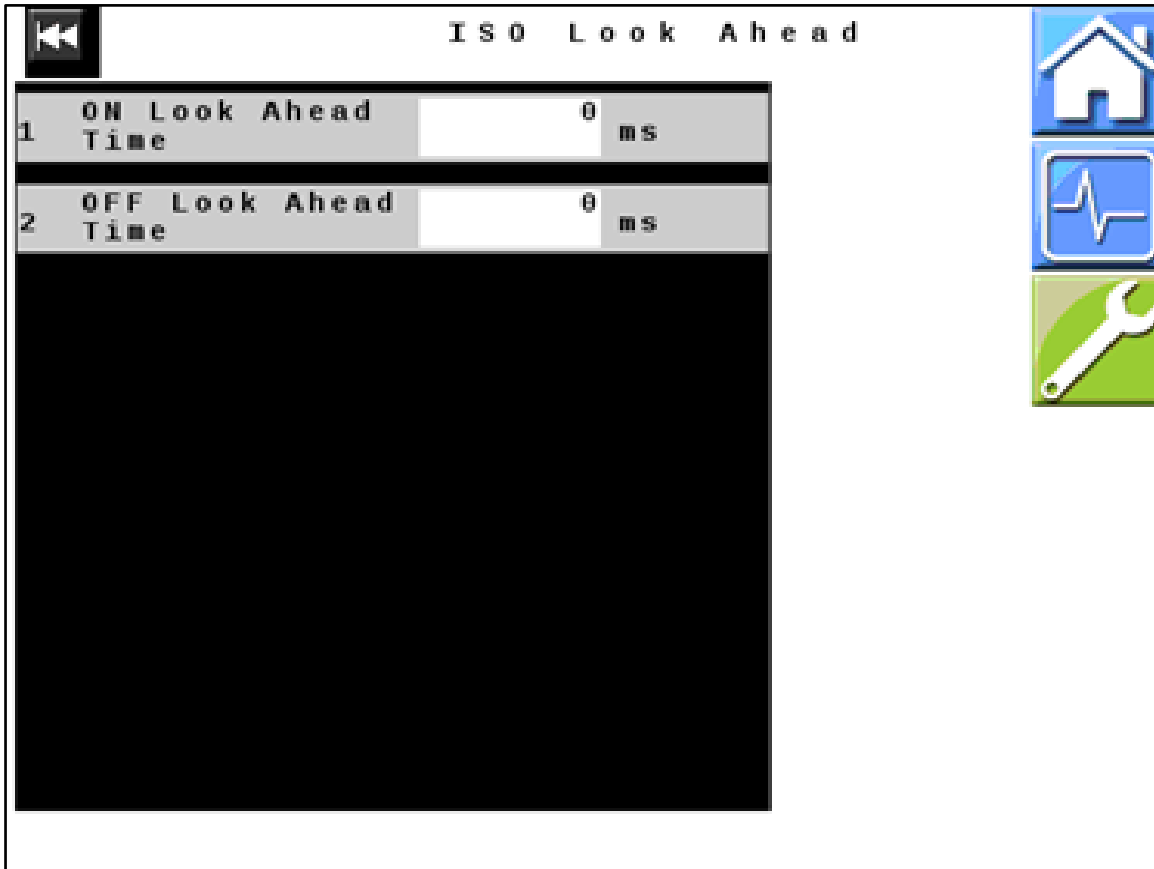

Figure 21 — ISO Look Ahead
36. *Figure 21:* Verify that all values displayed on your unit match those shown here. Change values if necessary.